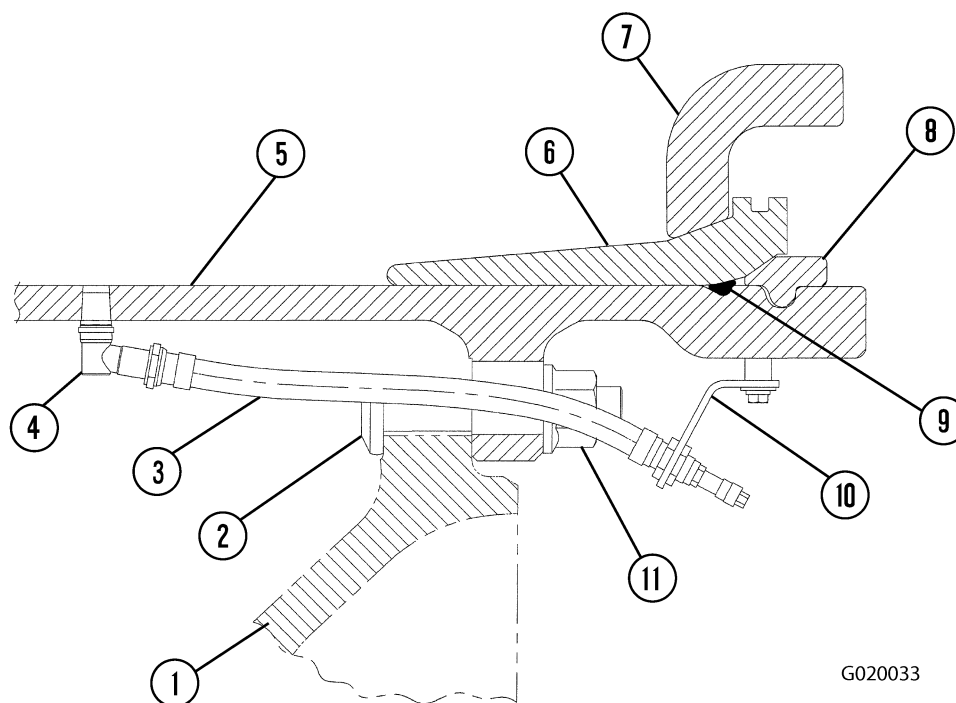

FIGURE 2-3. FRONT WHEEL HUB AND RIM ASSEMBLY
6. Grip the tire and wheel assembly with tire a handler. Remove nuts (11, Figure 2-3) that secure the wheel assembly.